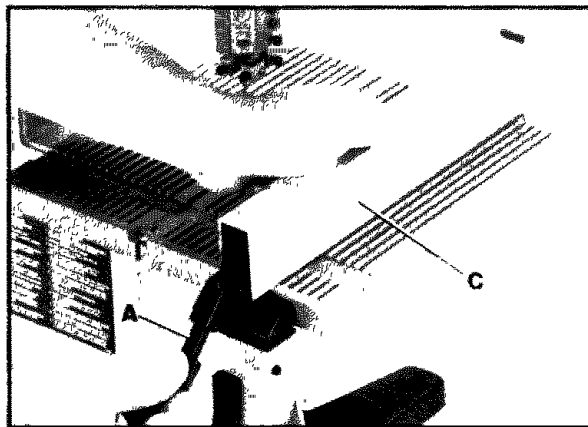

Fig. 9
2. Lower the front of rip fence (C) (Fig. 9) against the table and push down on locking lever (A). **NOTE:** Clamping action on the rip fence (C) (Fig. 9) can be tightened or loosened by lifting locking lever (A) and rotating lever clockwise or counterclockwise as necessary until firm clamping action is accomplished. Rip fence (C) can be positioned either to the right or left of the saw blade.